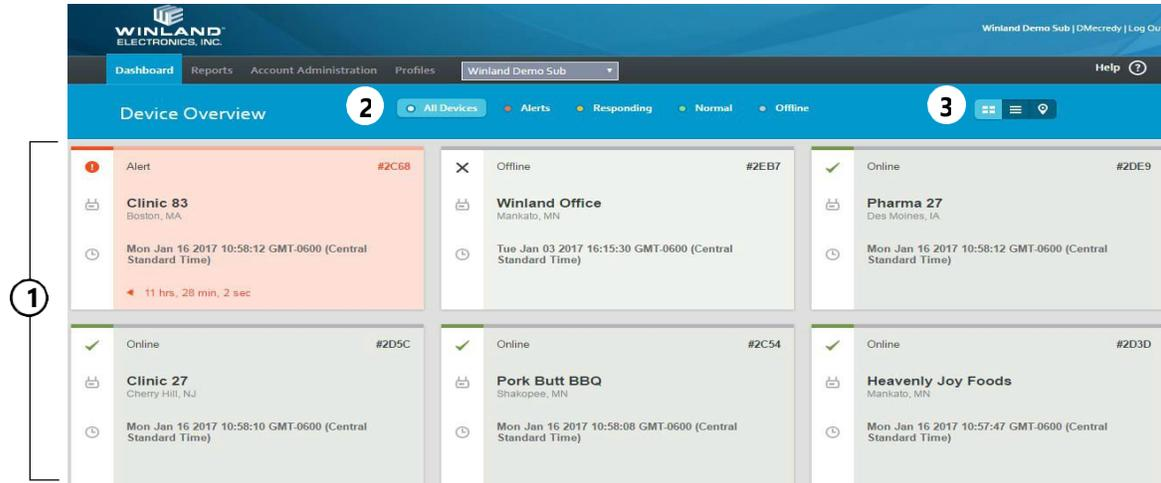

Figure 3-1 Dashboard - Device Overview
To view the dashboard, click the *Dashboard Navigation Tab*, as shown in **Figure 3-1**. In this example, there are six tiles ①, each representing a device, you can see both EA800-ip and EAPro-GTWY at the same time. At the center of the Device Overview banner, there are several filter radio buttons ② and three dashboard view buttons ③ from which to choose.